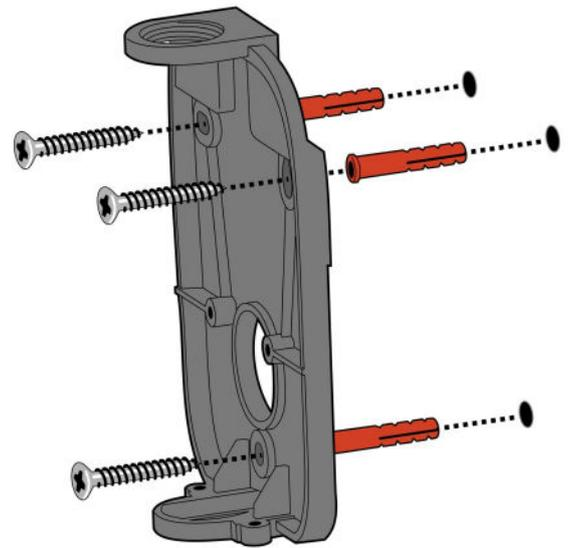

Figure 1.
**Step 1:** Find the mounting bracket. Mark the position of the 3 mounting holes. Using suitable fixings, screw in the 3 screws as shown in Figure 1.